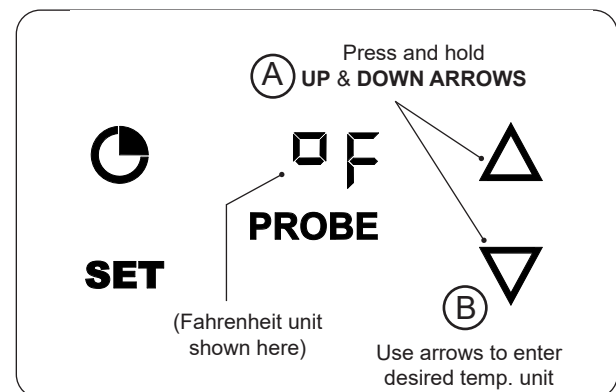

Fig. 33-4 Change temp. unit
1. Press and hold the **UP** and **DOWN** arrows until °F or °C is displayed (Fig. 33-4, A).
2. Press the **UP** or **DOWN** arrow to select the desired temp unit (Fig. 33-4, B).